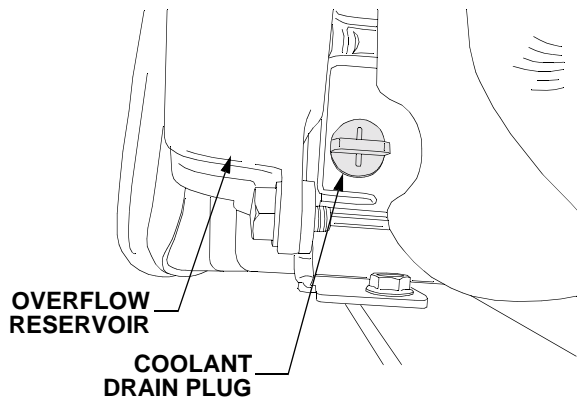

Figure 59
- Locate the radiator drain plug in the lower left rear corner of the radiator. See Figure 59.